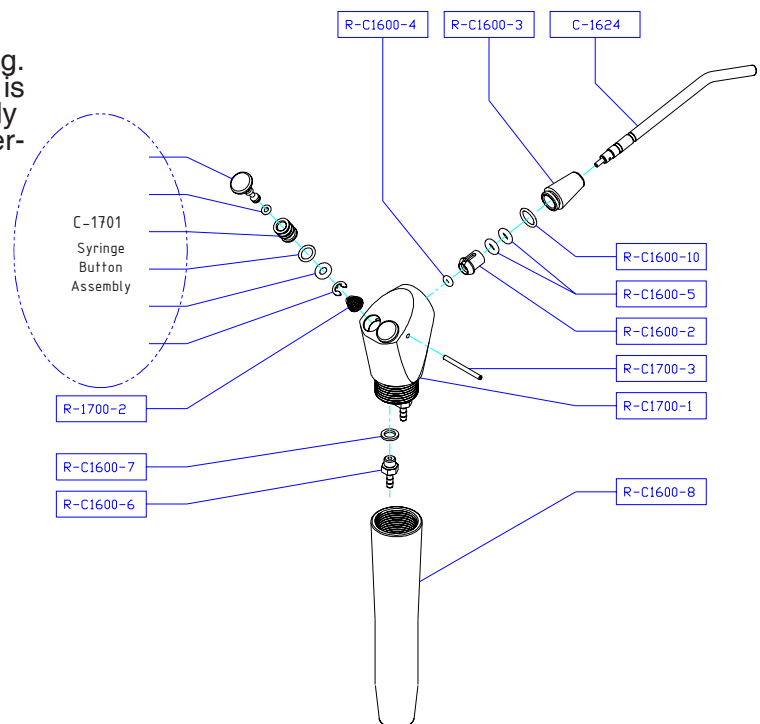

Figure 4. Syringe.
2. Replace the tip by inserting a new one into the tip socket, and firmly pushing into place until you feel it softly "pop" into place. To ensure it has been fully inserted, the uppermost small groove on the tip shank must be just visible over the end of the socket. See Figure 4.
**Solution:** Replace the button assembly # C-1701 (See figure 4). Turn water and air supply off. Depress air and water buttons on Syringe to relieve residual pressure. Hold both buttons down and use a paperclip to push cross pin out of syringe head. Gently remove button from head, being careful not to lose conical spring beneath. To install new button, ensure that conical spring is seated with the small end pointing up. Gently push into place and hold both buttons down firmly while re-inserting cross-pin.
**Solution:** Ensure tip is properly and fully inserted. If so, replace O-ring #R-C16004 (See Figure 4). Twist conical tip socket assembly (R-C21600-3) off of syringe head to access this O-ring. When re-installing tip socket assembly, hand tighten only. If tip cannot be fully inserted, then socket is too tight.